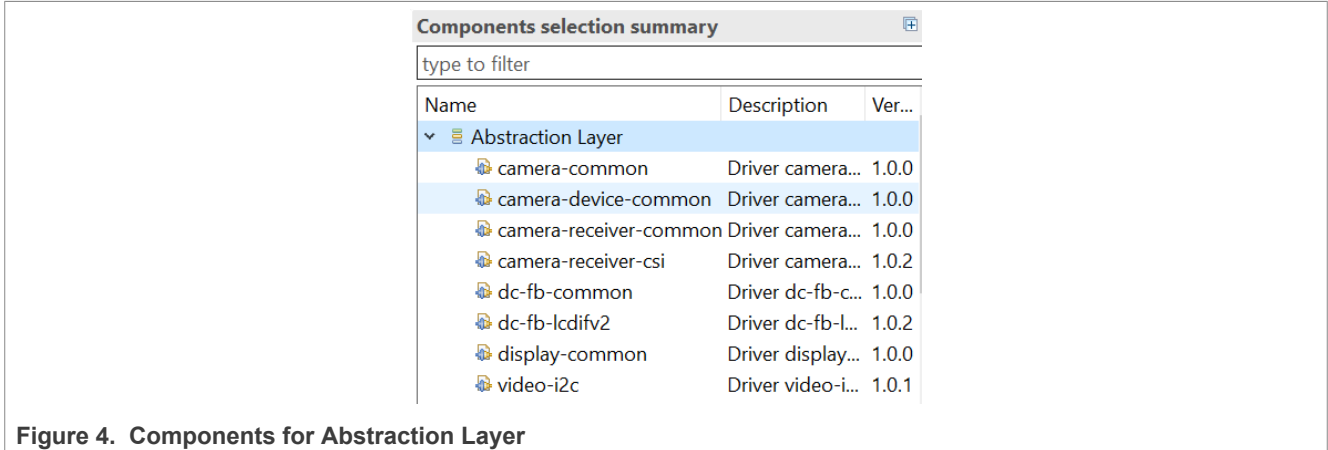

Figure 4. Components for Abstraction Layer
- Select the components of the abstraction layer for the camera and display controls in the example. The components are summarized in Figure 4.